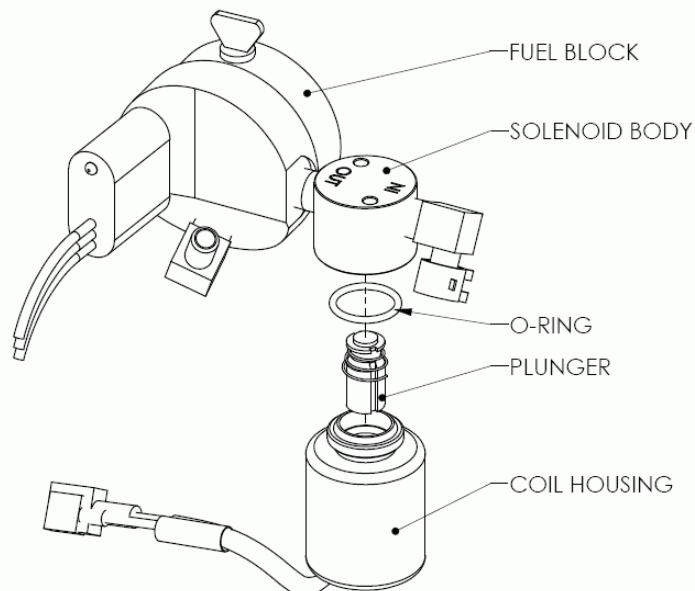

Figure 14: Fuel solenoid components
5. Remove the 2 nylocks (see Figure 14) from the fuel pump (using a 7/16ö socket) and remove it from the burner box.